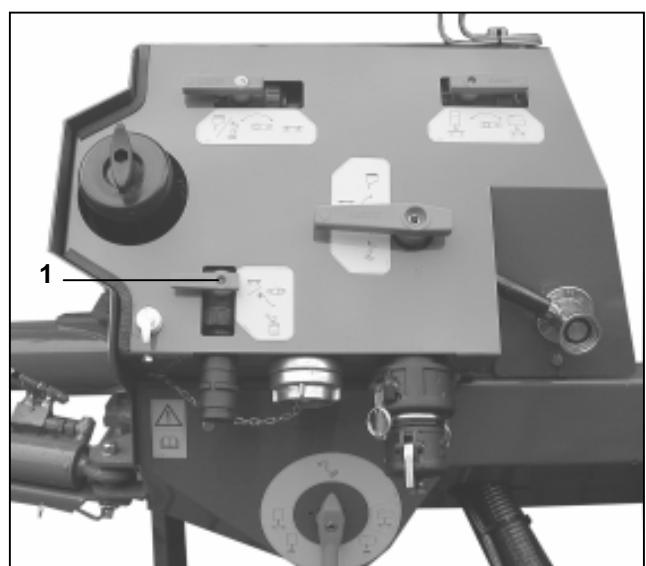

Fig. 10.13
- Move multiple-way taps into the illustrated position (Fig. 10.13).
- Move 2-way-tap (Fig. 10.13/1) by 90° until the desired amount of spray agent has been sucked.
- Briefly open once 2-way tap (Fig. 10.13/1) for after sucking.